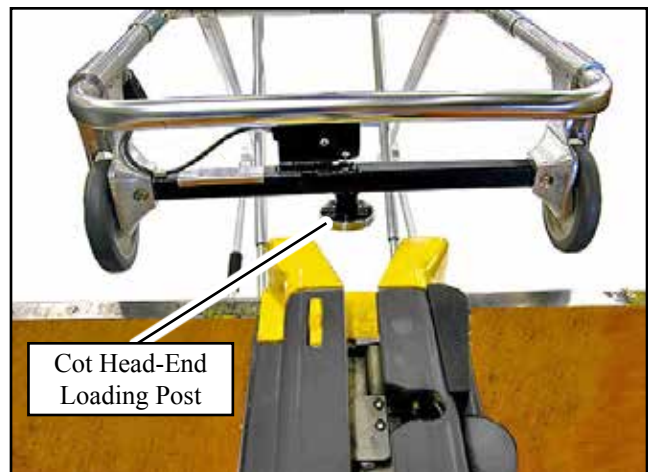

Figure 5 - Loading Post Aligned for Loading
3. Roll the cot to the open rear doors of the ambulance and align the head-end loading post on the cot with the Stat Trac (Figure 5).